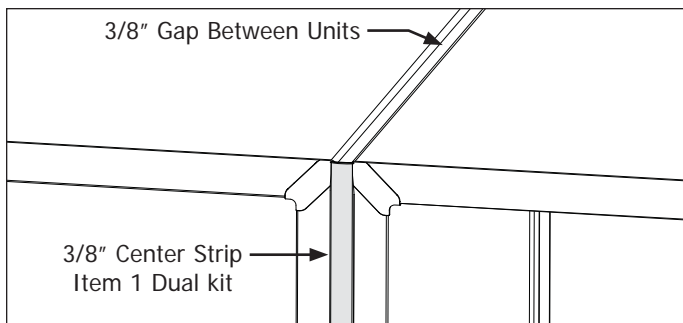

Figure 2-17.
- b. Install center strip to insure the proper 3/8" gap is maintained between units. (See Figure 2-17).